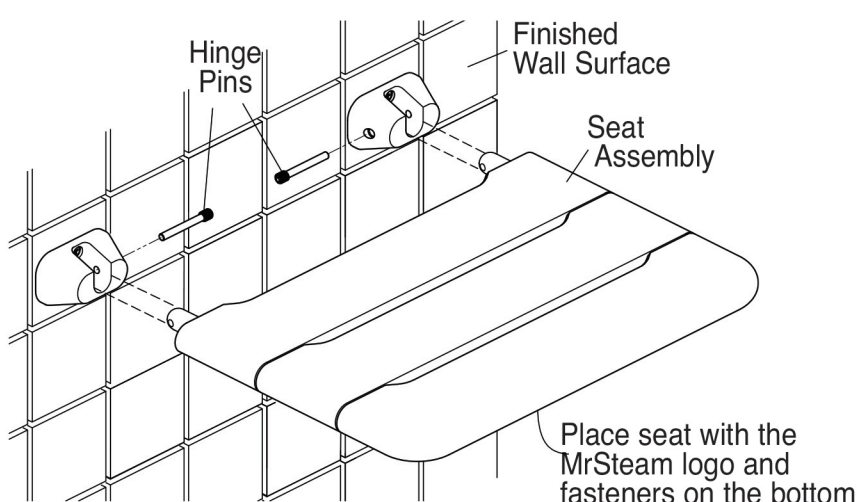

Fig. 3 Mounting Seat Assembly
12. Insert seat assembly to brackets. Place seat with the logo and fasteners on the bottom. See figure 3.
13. Insert hinge pins to both left and right brackets while the seat assembly is in vertical position. Securely tighten both hinge pins, using Allen wrench provided. See figure 3.